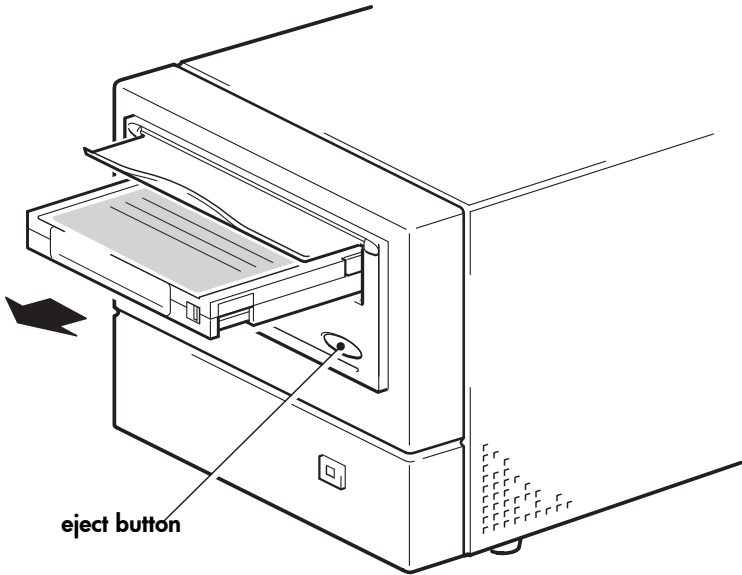

Figure 7b: unloading a cartridge
- 1 Press the Eject button on the front panel. (See figure 7b.)